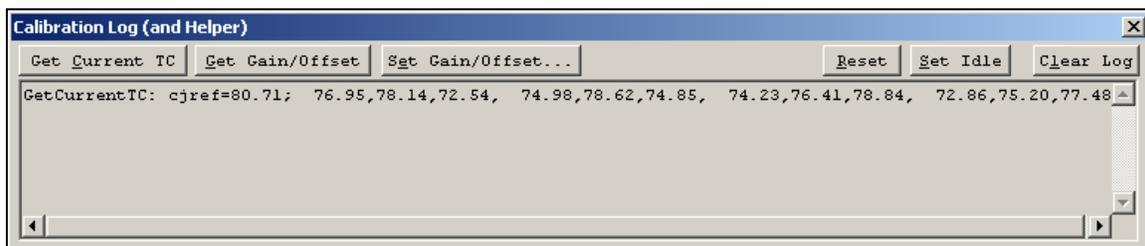

Figure 213: Hardware Utility – Calibration Status Log
4. Open the *KIC Profiler Hardware Utility* software program or if already open select the Refresh button. To verify communication between the *KIC Explorer* and the *KIC Profiler Hardware Utility*, select the “get Current TC” button in the *Calibration Status* window. If communicating properly you should see the current live temperatures from the *KIC Explorer*. See Figure 213.